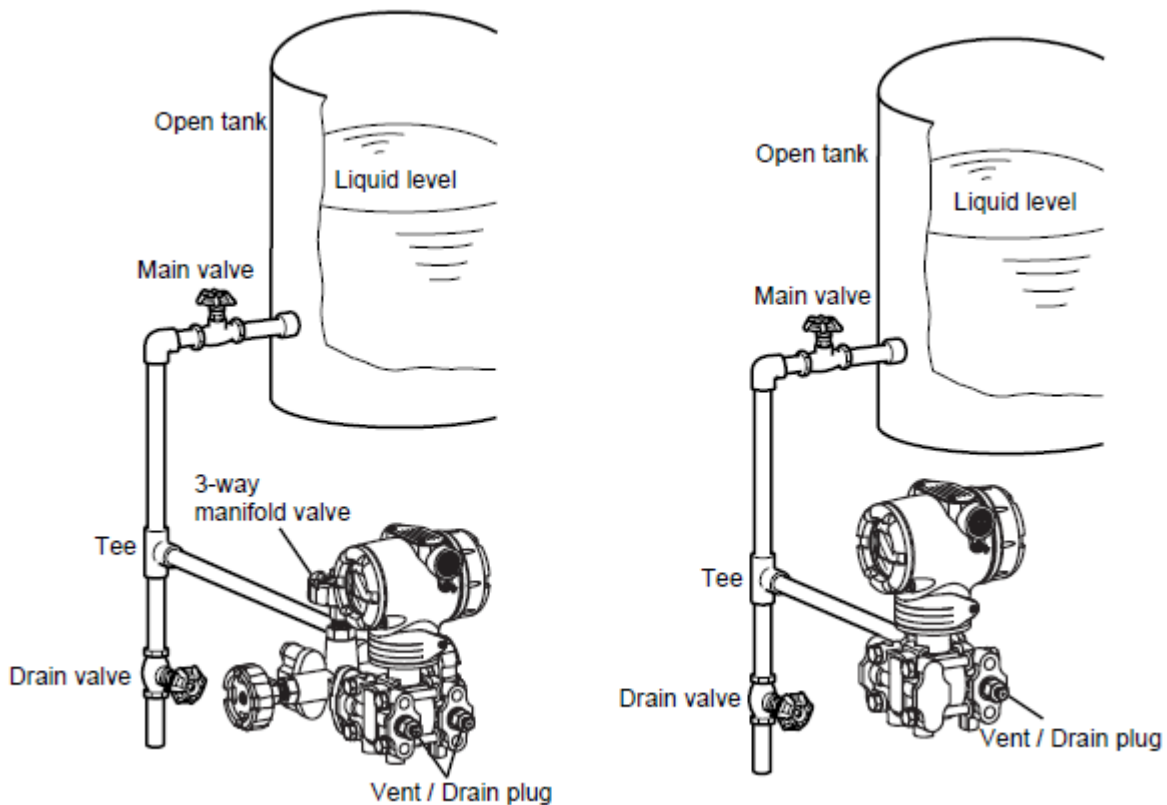

Figure 9. Typical Open Tank Piping Installation
- ◆ After completing piping work, check for pressure leaks around the connecting pipe, the transmitter, and the 3-way manifold valve. Figure 9 shows a typical installation.